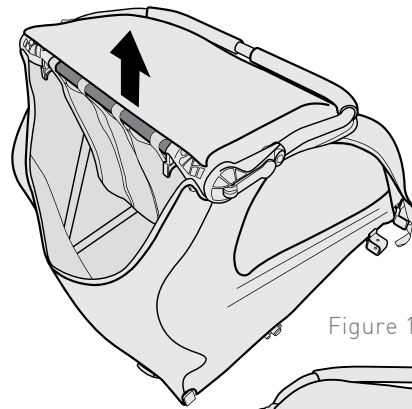

Figure 1
1. Lift upper frame at rear (Figure 1).